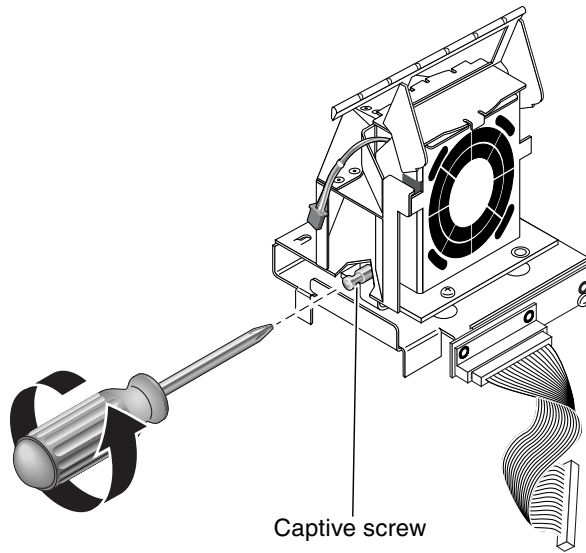

FIGURE 4-11 Loosening the Fan Tray 3 Assembly Captive Screw
14. Unscrew the one screw to split the fan tray 3 assembly into two pieces (FIGURE 4-11).
3. Secure them together using the single captive screw (FIGURE 4-11).